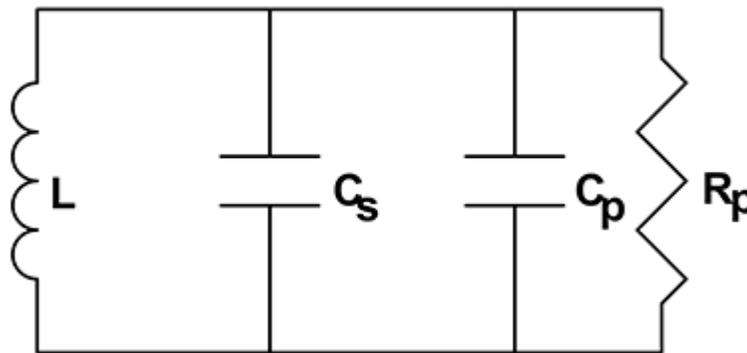

Figure 10: Electrical Schematic of Equivalent Resonant Circuit
Figure 10 illustrates the resonant network formed by Sensor capacitance in parallel with product capacitance also in parallel with inductor (L). This network has a unique resonant frequency at which inductive reactance cancels capacitive reactance and network impedance is at a maximum. Impedance at resonance is actually resistance (R_p).